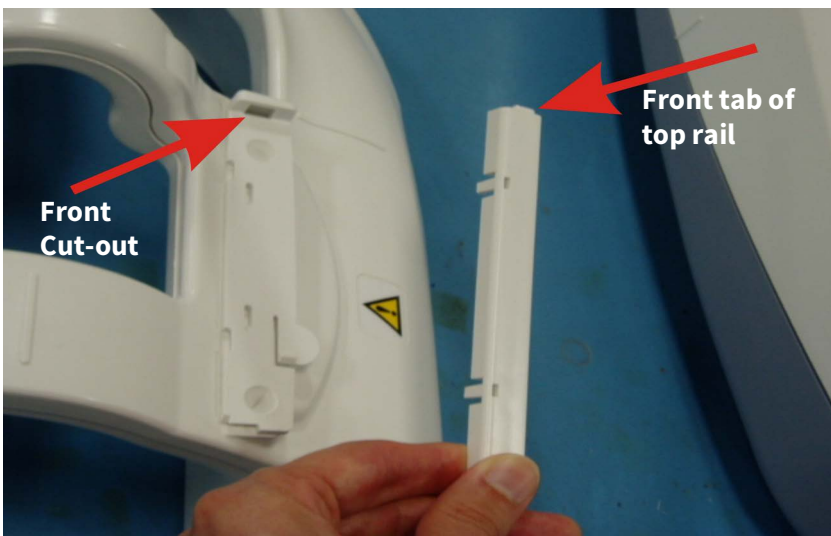

Figure 3-5: The front tab of the top rail and the front cut-out of the bottom rail
3. Insert the front tab on the top right rail into the front cut-out of the bottom rail (see figure 3-5 and 3-6).